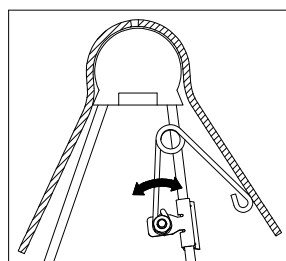

FIGURE E2: Cutaway view of driver side pivot arm and saddle.
2. Adjust the resting angle of your coupler plate by rotating the spring on the driver side pivot arm. Pulling the top of the spring away from the cab will increase the angle of the coupler plate. Set the angle of the coupler so that head will tilt away from the cab when coupling, see Figure E2. Tighten the 1/4" nut once the springs orientation is set.